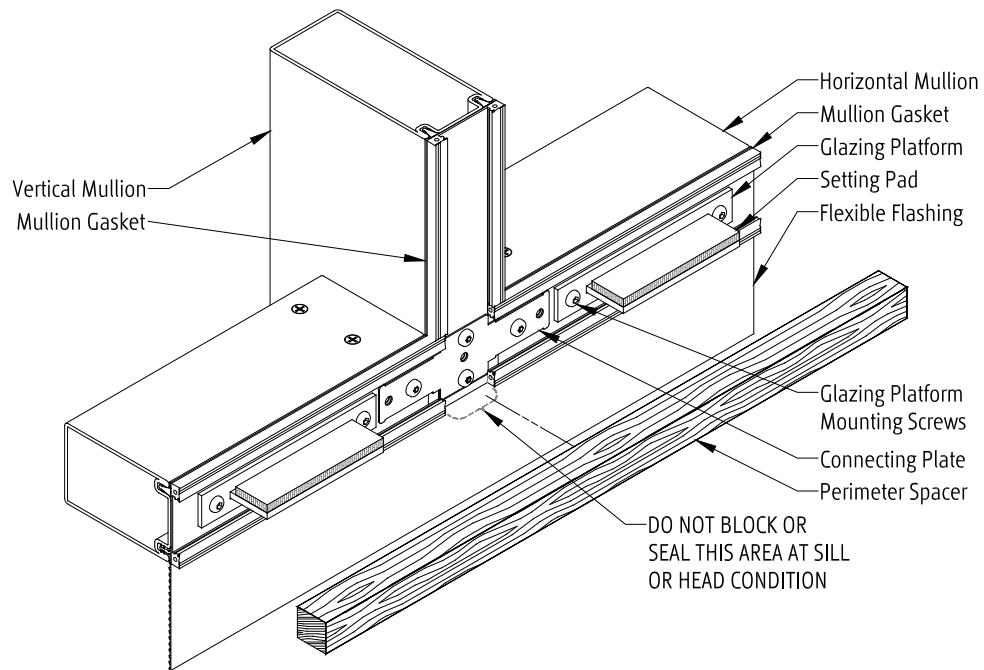

Figure 26 - Perimeter Spacer at Sill
- f. Apply silicone sealant to gasket edges and faces as shown in Figure 26.
- Spacers should have holes field drilled in them (approximately every 46") through which #12 stainless steel sheet metal screws may be used for ease of installation (Figure 26).